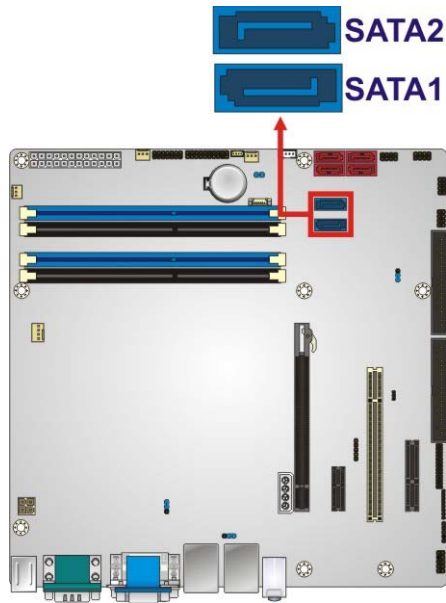

Figure 3-15: SATA 6Gb/s Drive Connector Location
- CN Location:** See **Figure 3-15**